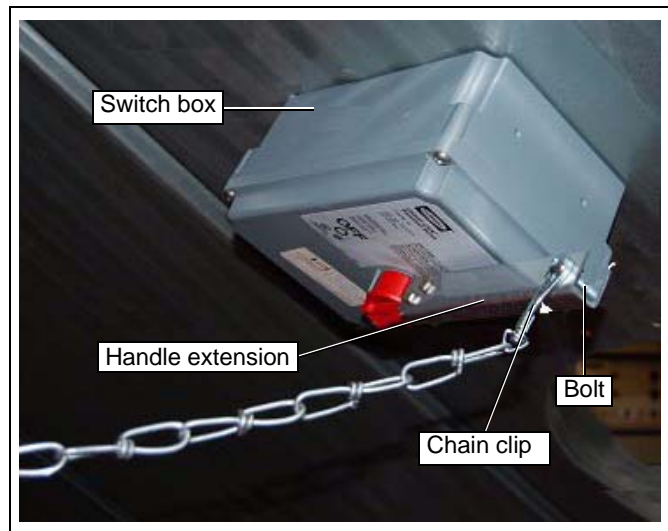
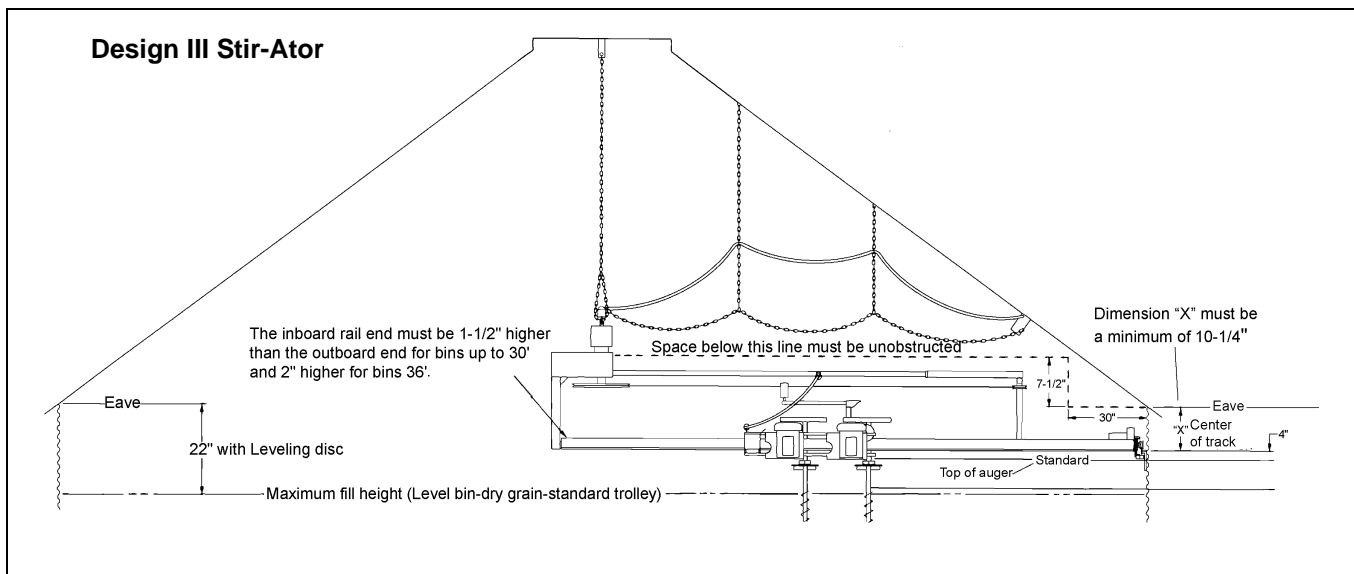

Figure 4J
Figure 4K
1. Remove bags of hardware from the switch box. Install switch box handle extension. (See Figure 4J on Page 20.) Install switch box and safety switch shut off to bin roof above the manhole opening. See Figure 4K on Page 20 for recommended mounting height and then drill the hole in the roof.